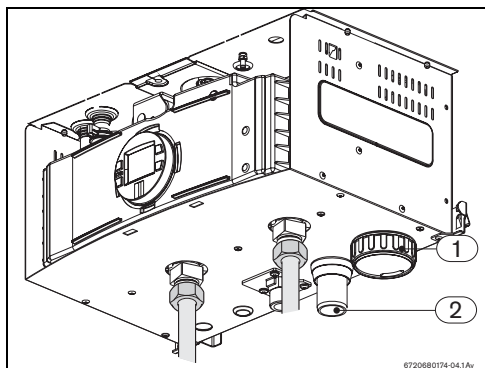

Fig. 26
Make sure that connections doesn't obstruct the condensate trap cover (Fig. 26 , pos. 1) removal.